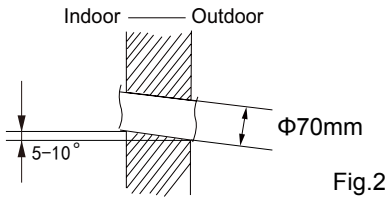

Fig.2
(2) Open a piping hole with the diameter $\Phi 70\text{mm}$ on the selected outlet pipe position. In order to drain smoothly, slant the piping hole on the wall slightly downward to the outdoor side with the gradient of $5\text{-}10^\circ$. (As show in Fig.2)